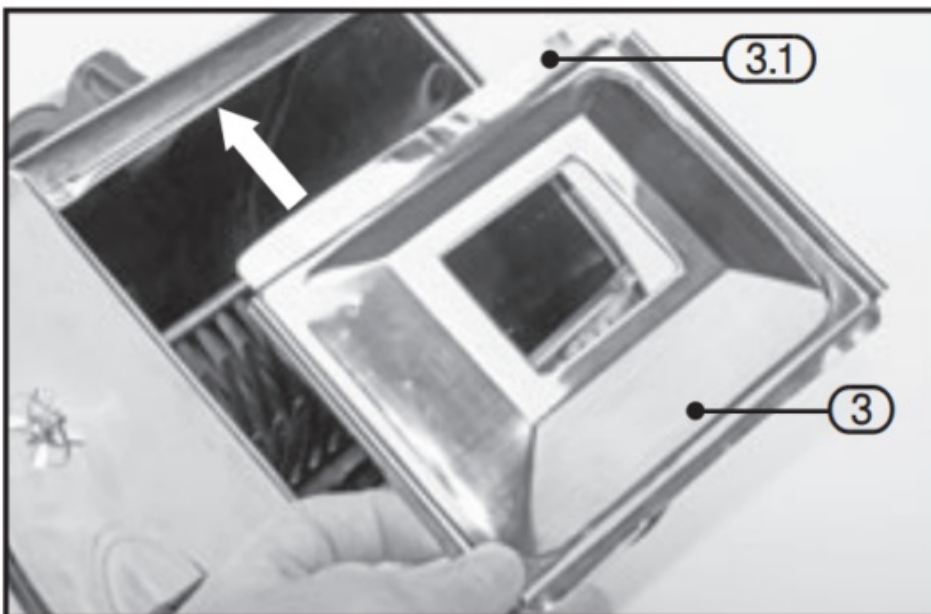

FIG.4
- 7.3 USING THE REDUCER COVER – FIG.4**
USING THE REDUCER COVER – FIG.4